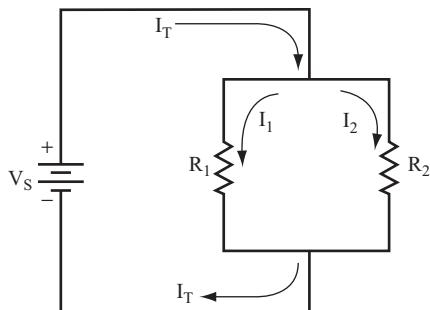

FIGURE 1.9
- 27** In the circuit shown in Figure 1.9, the current splits or divides between the two resistors that are connected in parallel.